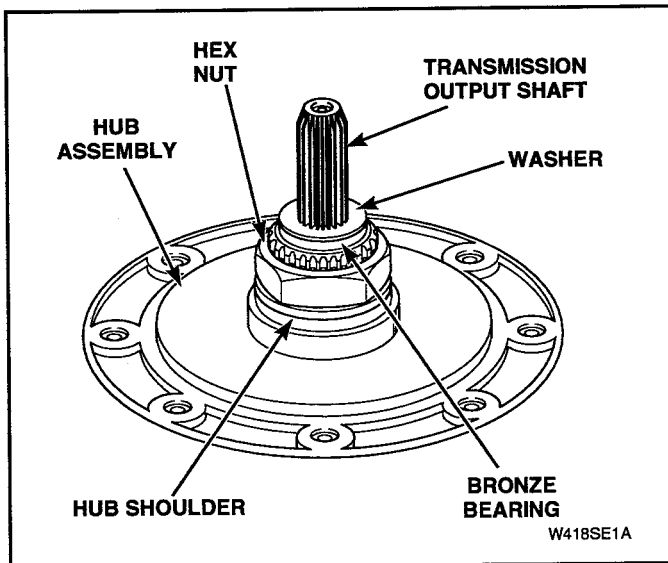

Figure 5-12
- Thoroughly clean all foreign material from seal mounting area of hub assembly, bronze bearing and washer. See Figure 5-12.